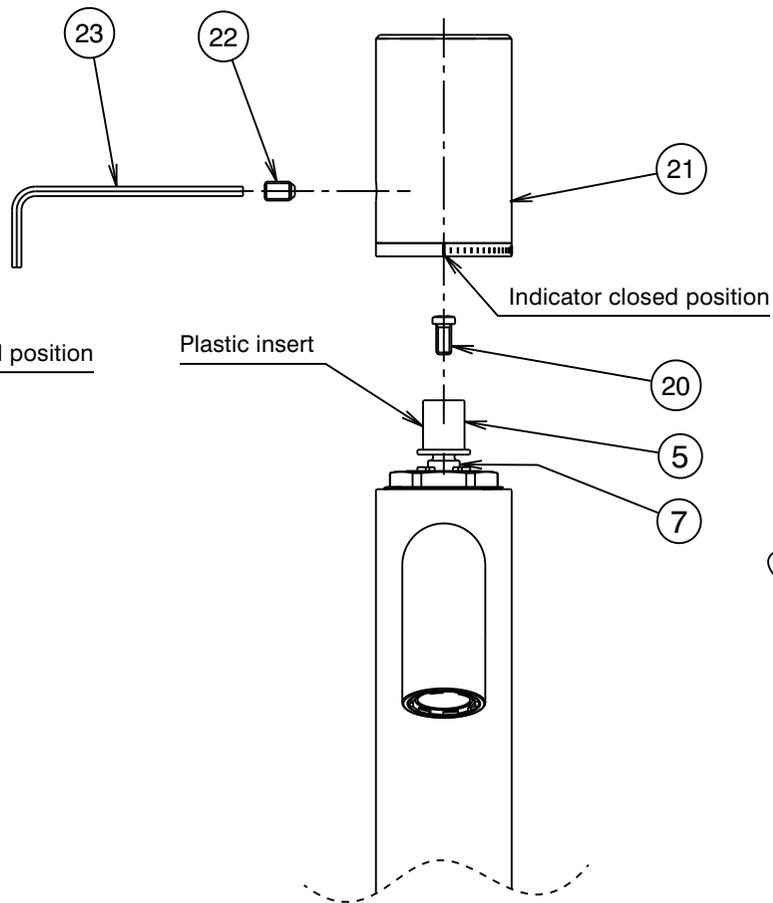

Fig. 4
- 3) Fit new plastic insert (5), from plastic bag, onto spindle spline (7) with square aligned to axis. Secure using screw (20) supplied. (See Fig.4)
- 4) Align the closed position indicator on the timber handle to be at the front then slide the handle (21) onto the plastic insert (5) and tighten the grub screw (22) using a 2.5mm allen key (23).
#### When timber handle (21) is fitted (Fig.4):-